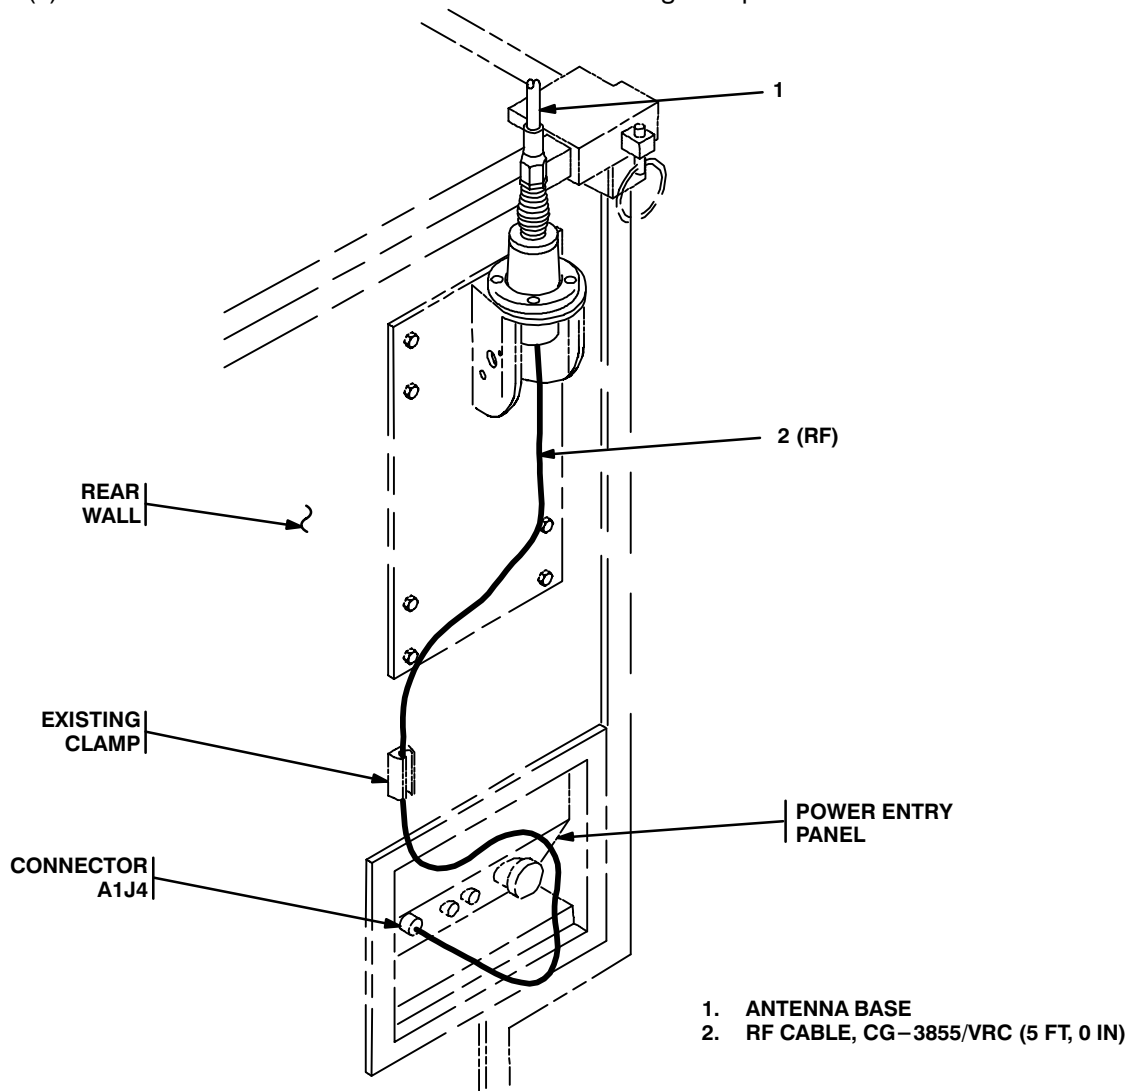

Figure 5-6 (1). Cable Installation: Rear RF Cabling
a. RF cable (2) connector P1.	Connect and secure to antenna base (1) connector J1. See figure 5-6 (1).
b. RF cable (2) connector P2.	Connect and secure to power entry panel connector A1J4.
c. RF cable (2).	Secure to rear wall with existing clamp.